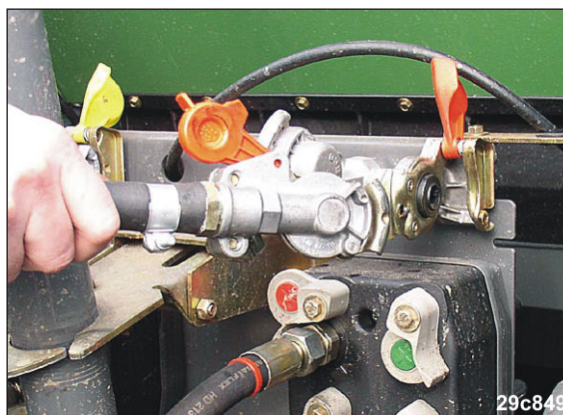

Fig. 132
2. Release the coupling head (Fig. 132) of the supply line (red).